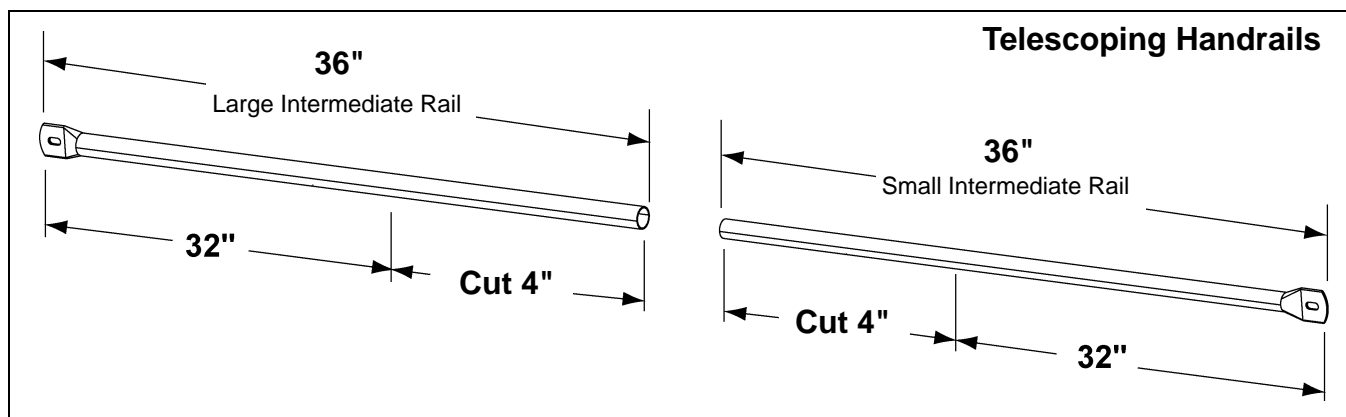

Figure 8T 32" Telescoping Handrail
3. Trim two (2) large and two (2) small rails by 4" each so remaining length of each rail, both small and large, is 32". (*See Figure 8T.*)